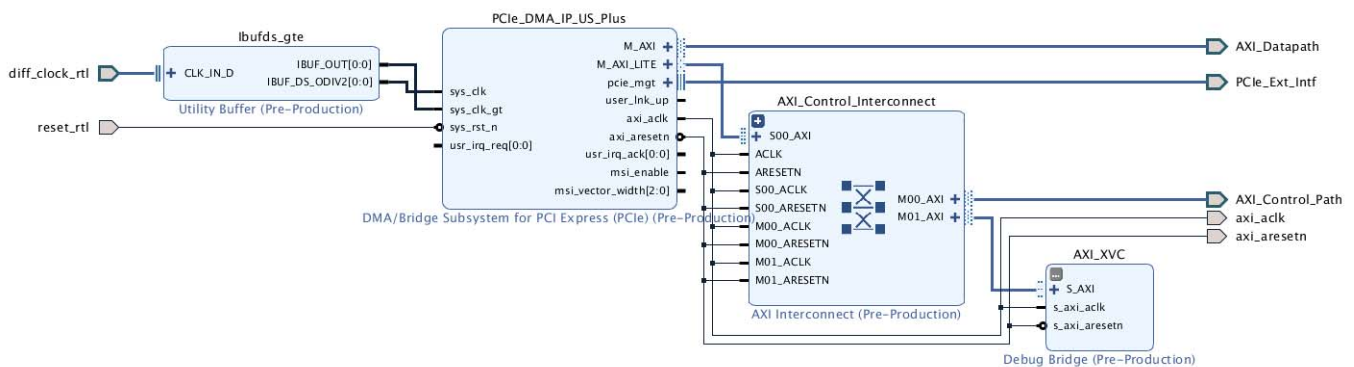

Figure D-3: XVC over PCIe with AXI4-Lite Interface
Using the AXI-XVC approach, the Debug Bridge IP connects to the PCIe IP through an AXI Interconnect IP. The Debug Bridge IP connects to the AXI Interconnect like other AXI4-Lite Slave IPs and similarly requires that a specific address range be assigned to it. Traditionally the debug\_bridge IP in this configuration is connected to the control path network rather than the system datapath network. Figure D-3 describes the connectivity between the DMA Subsystem for PCIe IP and the Debug Bridge IP for this implementation.
**Note:** Although Figure D-3 shows the PCIe DMA IP, any AXI-enabled PCIe IP can be used interchangeably in this diagram.